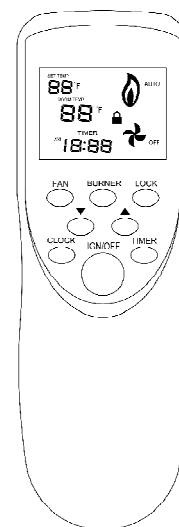

Fig 12 Front of the Transmitter
- Press the IGN/OFF button. (See fig 12)